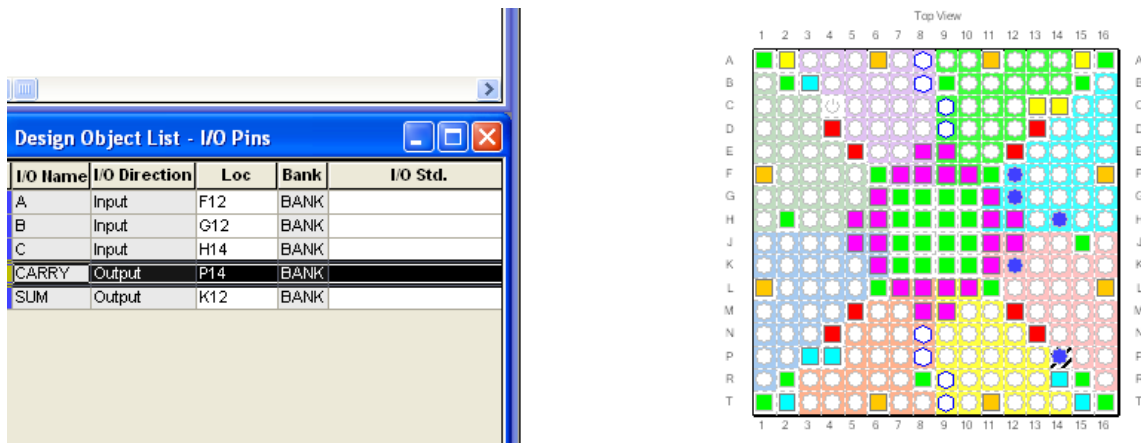

Figure B.6: Assigning pins in PACE
5. In the Design Object List window, click and drag the input and output signals to the specific locations which you have assigned in Step 1. A sample assignment is shown in Figure B.6.